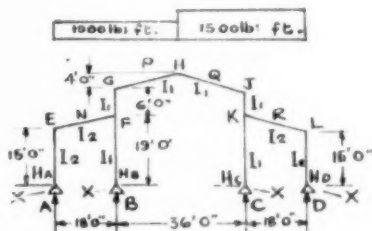

Fig. 30.
**Example 8.**—Design a frame as in Fig. 30 (which is also considered elastically elsewhere(3)). Although in this example the unknowns were not originally shown with a view to illustrating plastic design, it will be shown here that the plastic method can also be applied. The deformation values  $\delta_{ik}$  were evaluated(3), and the simultaneous equations for the unknowns are as follows: